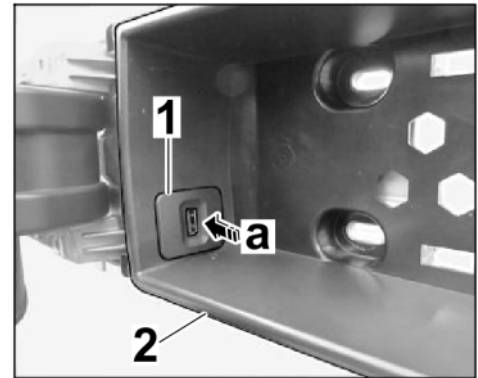

Figure 11
- 4.3 Clip USB interface ⇒ *Figure 11-1-* into center console ⇒ *Figure 11-2-* (⇒ *Figure 11-a-*).